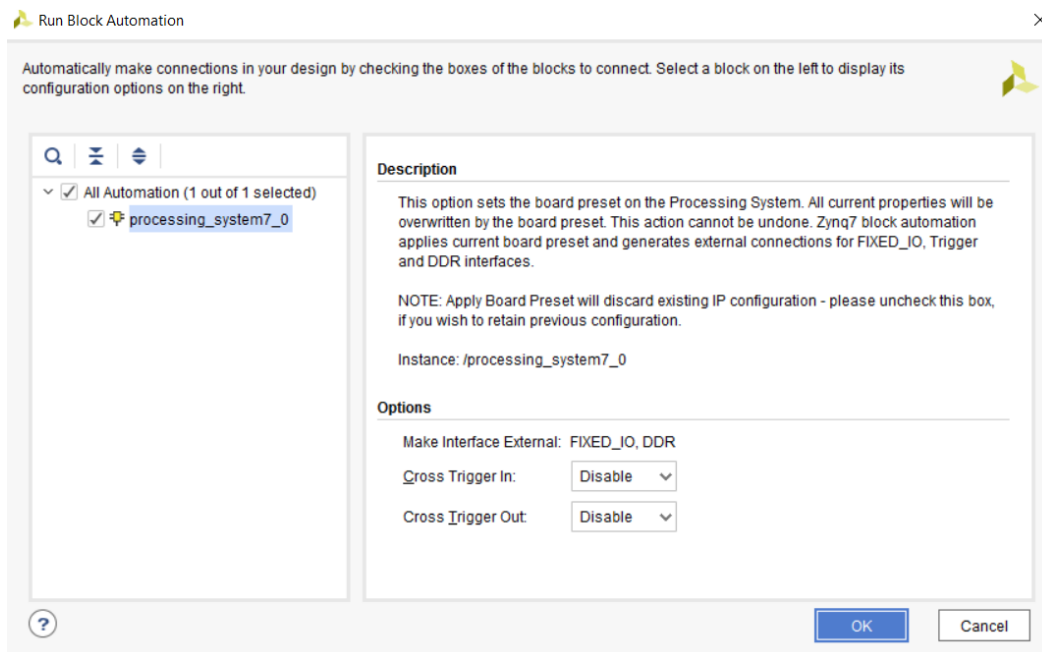

Figure 6: Run Block Automation settings
5. Notice the green highlighted bar at the top of the block design window. This is where you will see messages for design assistance. Click on **Run Block Automation** and make sure the settings match those in Figure 6. The default settings should already have the desired settings. Click **OK**.